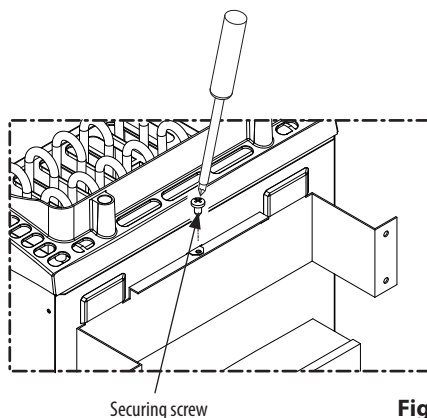

Fig. 6
- Secure the sauna heater to the wall bracket by inserting a sheet-metal screw through the hole positioned at the rear edge of the heater (Fig. 6).